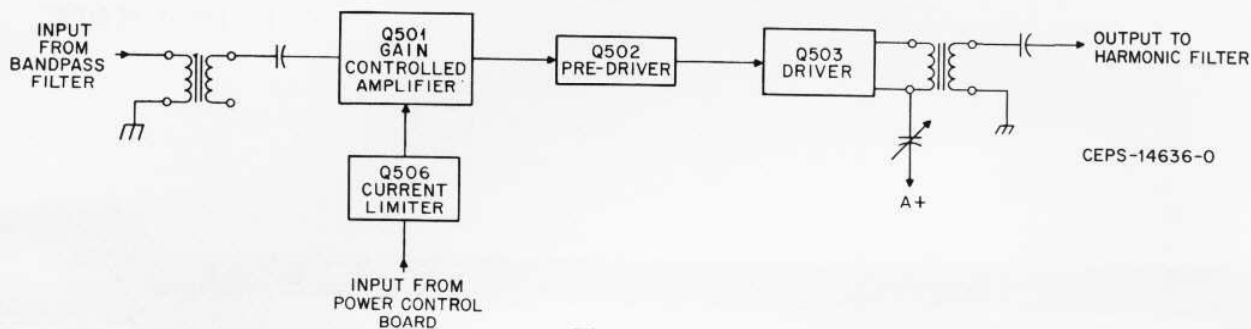

Figure 1
2.1 Refer to the block diagram, Figure 1, and the schematic diagram. This series of driver amplifiers requires a 400 mW rf input from the exciter board. This input is passed through a bandpass filter assembly and a ferrite step-down transformer (to match the input impedance to the first stage) to the gain-controlled